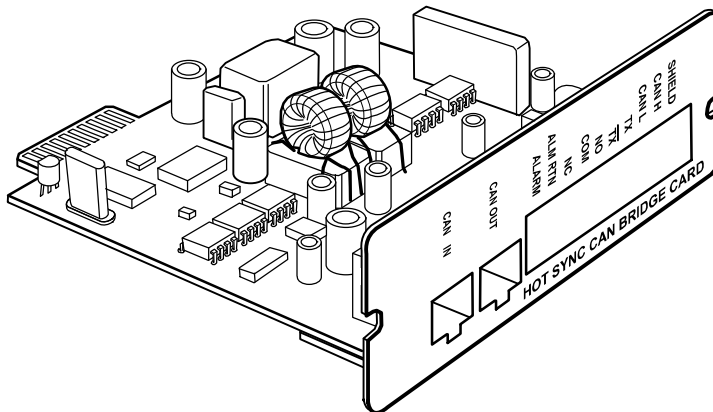

Figure 40. Powerware Hot Sync CAN Bridge Card
3. Unpack the Powerware Hot Sync CAN Bridge Card and verify that the card was not damaged during shipment (see Figure 40).